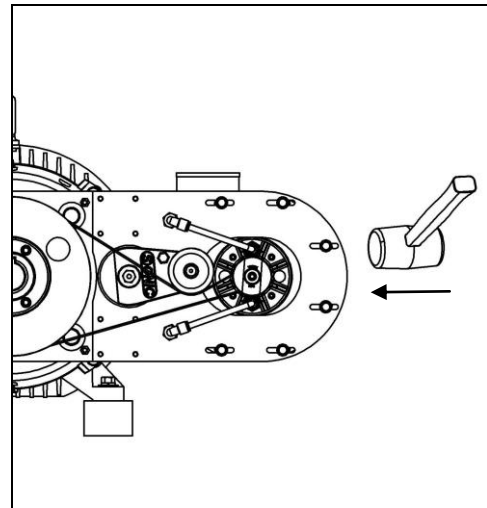

Figure 26 - Adjust Gap
7. If a ¾ inch belt gap was not achieved, use a ½ inch box-end wrench to loosen the blower head screws and slide the head. (See Figure 26)(See Section 7.2 - Torque Specifications)